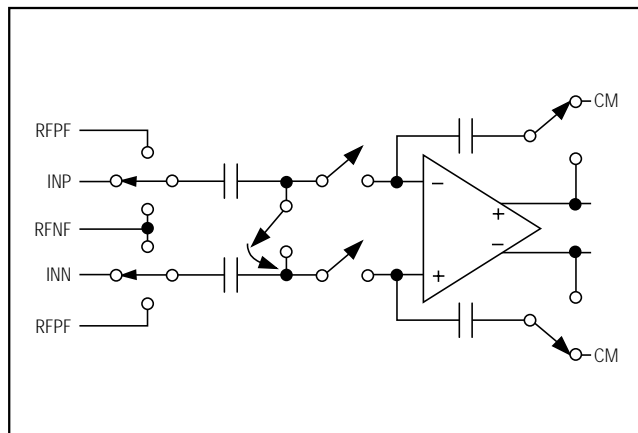

Figure 2. Simplified MDAC Architecture
Fully differential switched-capacitor circuits (SC) are used for both the reference and analog inputs (Figure 2). This allows either single-ended or differential signals to be used in the reference and/or analog signal paths. The signal voltage on these pins (INP, INN, RFP_, RFN_) should never exceed the analog supply rail, AV_{DD}, nor fall below ground.